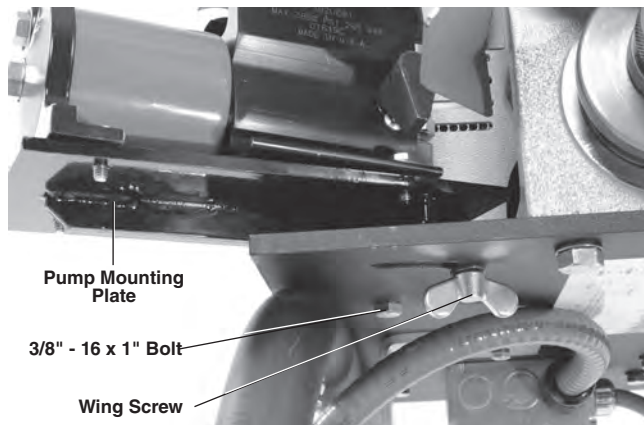

Figure 6 – Mounting Hydraulic Pump
7. Place the pump mounting plate over the hole and slot on the switch side of the 918-I. From the bottom of the base plate, insert the $\frac{3}{8}$ " – 16 x 1" bolt with washer into the hole and screw into pump mounting plate (*Figure 6*).